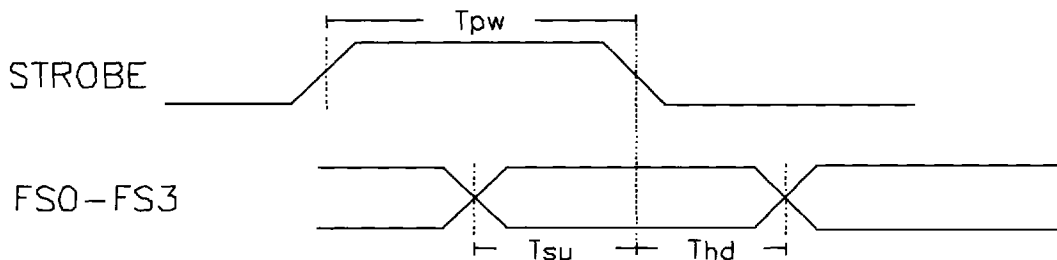

Figure 3
**FS0** (18), **FS1** (19), **FS2** (20), **FS3**(1), and **FS4** (4), are the TTL compatible frequency select inputs for the binary code corresponding to the frequency desired. **STROBE** (2), when high, allows new data into the frequency select latches; and when low, prevents address changes per Figure 3. The internal power-on-clear signal will force an initial frequency code corresponding to an all zeros input state. **VERTBLANK** (10), when low, inhibits the transfer of new frequency select information. Enabling this pin during the vertical blanking interval causes the change in frequency to happen at this time and prevents any visible glitch when a new frequency is selected. If this feature is not required, this pin may be left open.